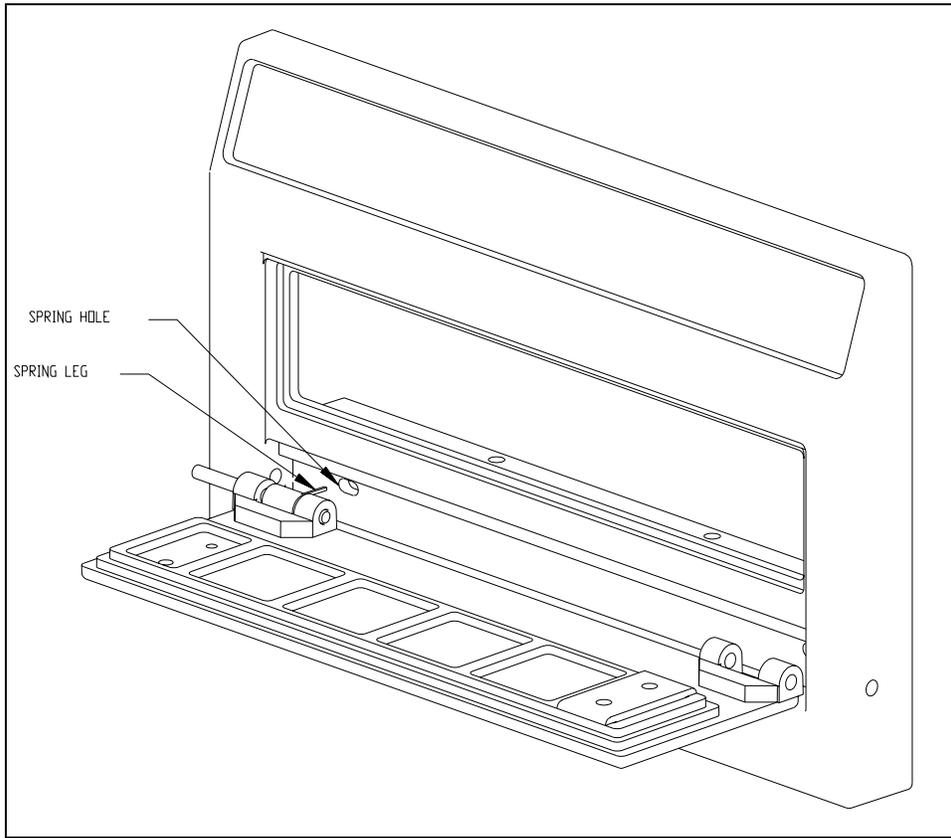

Figure 11-9 Position of Spring Hole and Leg
- 4 Adjust the pins so that one pin is flush and the other is projecting 1/8". Insert the projecting pin of the door into the bezel. As you do this, deflect the spring with a screwdriver so that it is pointing back and will enter the spring recess in the bezel shown in Figure 11-9. Do this with both springs. Insert the other end of the door. Engage the pin by pressing with a screwdriver. Use a miniature friction lock quick-grip clamp to press in the pins into the bezel.